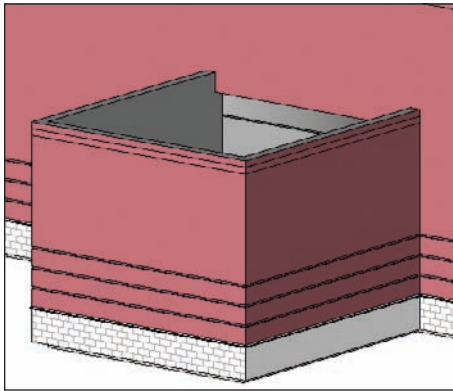

FIGURE 7.46 Changing the wall types as we have been doing all along
2. Select the three walls that comprise the jog in the south wall, as shown in Figure 7.46.
3. From the Properties dialog, switch these walls to Exterior - Brick And CMU On MTL. Stud (No Parapet), as shown in Figure 7.46.